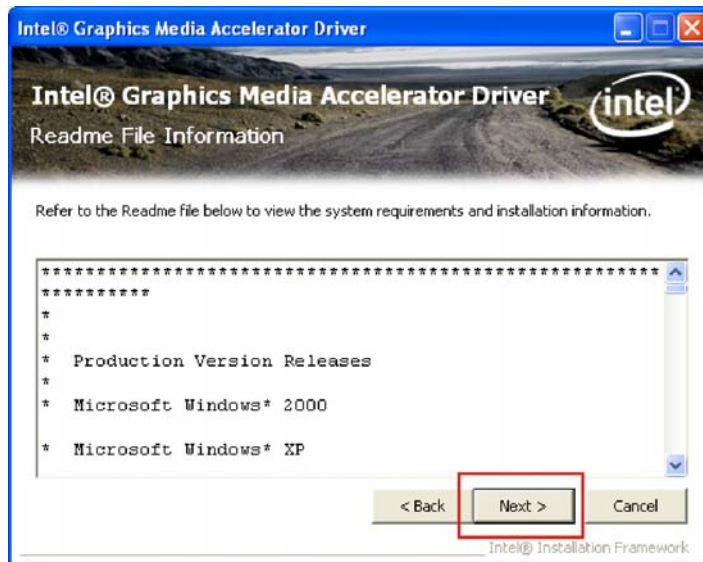

Figure 6-11: Graphics Driver Readme file
Step 9: A new window appears with details of the drivers to be installed (Figure 6-11).